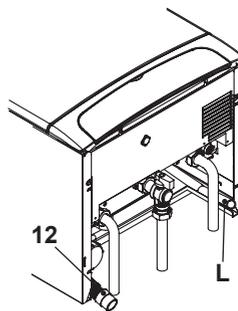

Fig. 6.4
- Connect the pipe L (Fig. 6.4) from the pressure relief valve to the safety discharge pipework.
- Fit the condensate drain 12 (Fig. 6.4) in the air brake connected to the drainage pipework. See also section "Condensate drain" to page 23.